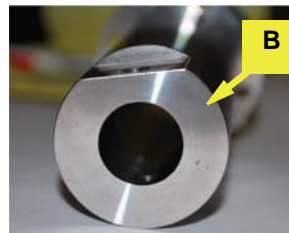

Figure 2a: Shaft adapter
a. Apply anti-seize (not supplied) to the inner surface of the shaft adapter (coupler) **B** to facilitate later removal (Figure 2a).